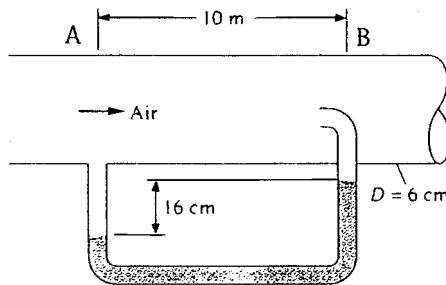

Fig. P6.138
**6.138** An engineer who took college fluid mechanics on a pass-fail basis has placed the static pressure hole far upstream of the stagnation probe, as in Fig. P6.138, thus contaminating the pitot measurement ridiculously with pipe friction losses. If the pipe flow is air at  $20^\circ\text{C}$  and 1 atm and the manometer fluid is Meriam red oil ( $\text{SG} = 0.827$ ), estimate the air centerline velocity for the given manometer reading of 16 cm. Assume a smooth-walled tube.